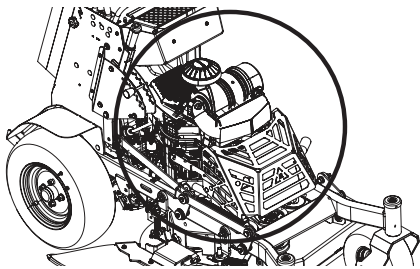

Fig. 16
- Clean around the exhaust manifold, fuses, all wiring and harnesses, muffler pipe, muffler shield, engine intake screens and cooling fins, etc (Fig. 16).